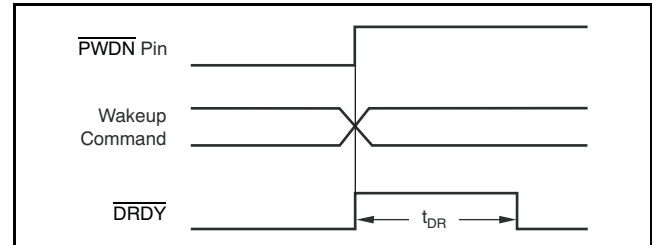

Figure 56. PWDN Pin and Wake-Up Command Timing
In power-down, note that the device outputs remain active and the device inputs must not float. When the Standby command is sent, the SPI port and the configuration registers are kept active. Figure 56 and Table 14 show the timing.
(1) See Figure 56 and Table 14 for time to new data.